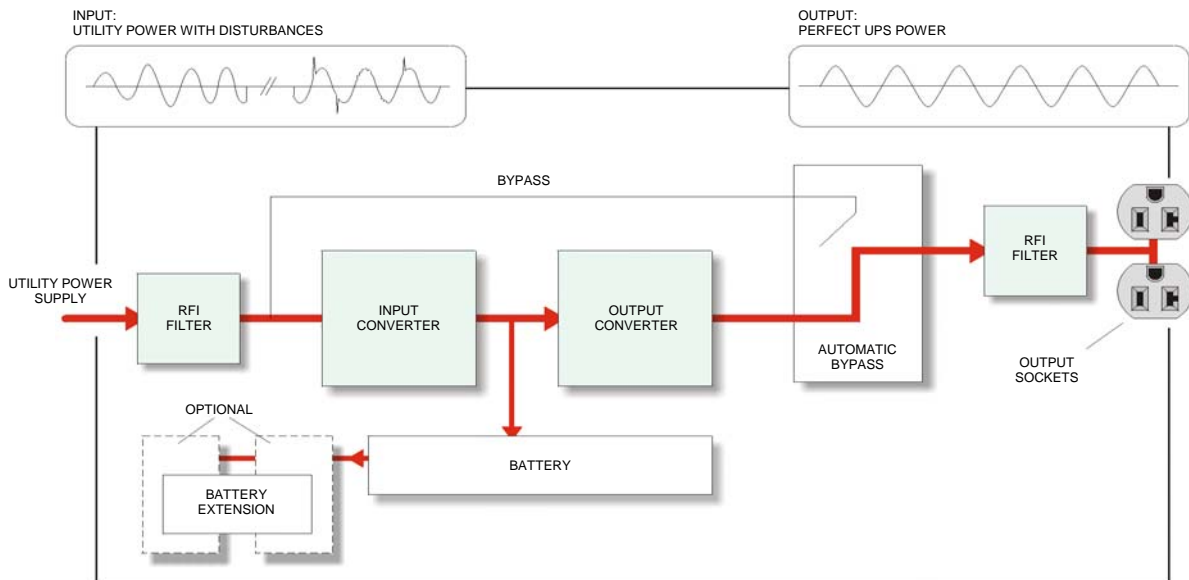

Figure 1 Block diagram of the **Digital Energy™ GT Series 19"** 1000-3000 UPS, utility present
The **Digital Energy™ GT Series 19"** UPS stores electric energy in batteries housed in the unit. This allows the UPS to supply output power even when the incoming utility power is cut off completely. Energy is stored as Direct Current (DC), while input and output energy are Alternating Current (AC) in sine wave form. Therefore the UPS contains an input converter (AC to DC) and an output converter (DC to AC) (See fig.1).